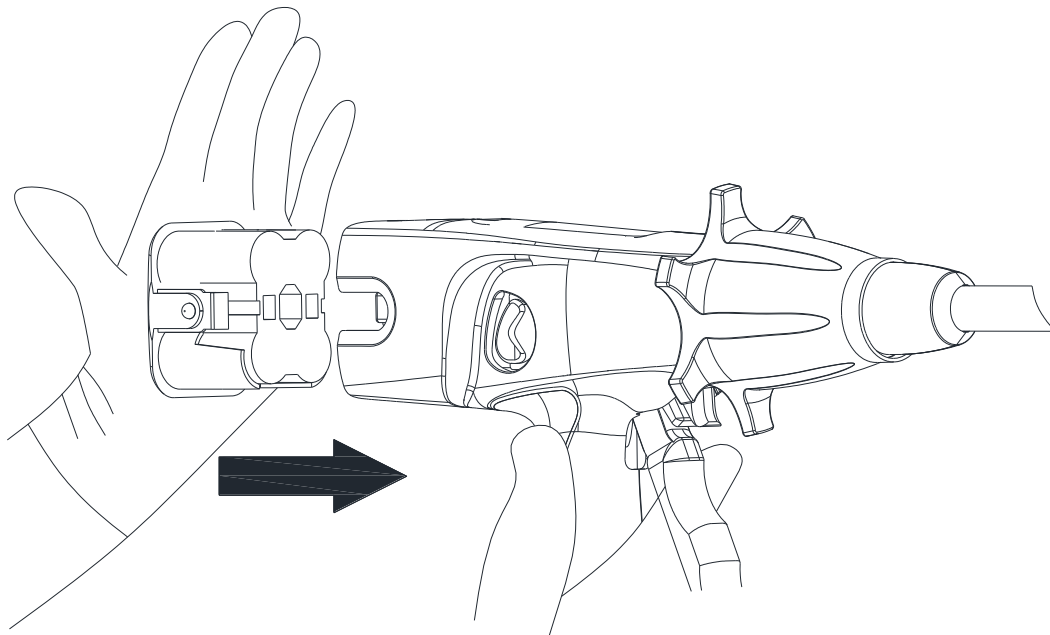

Figure 3-3
- 2) Install the primary lithium battery pack. The primary lithium battery pack must be installed before use. Insert the primary lithium battery pack by lining up the release plate on the battery pack with the slot on the rear of the device. The primary lithium battery pack can be inserted in either direction without up and down (Figure 3-3). Ensure that the primary lithium battery pack is fully inserted into the device. When the primary lithium battery pack is fully inserted, a "click" can be heard.